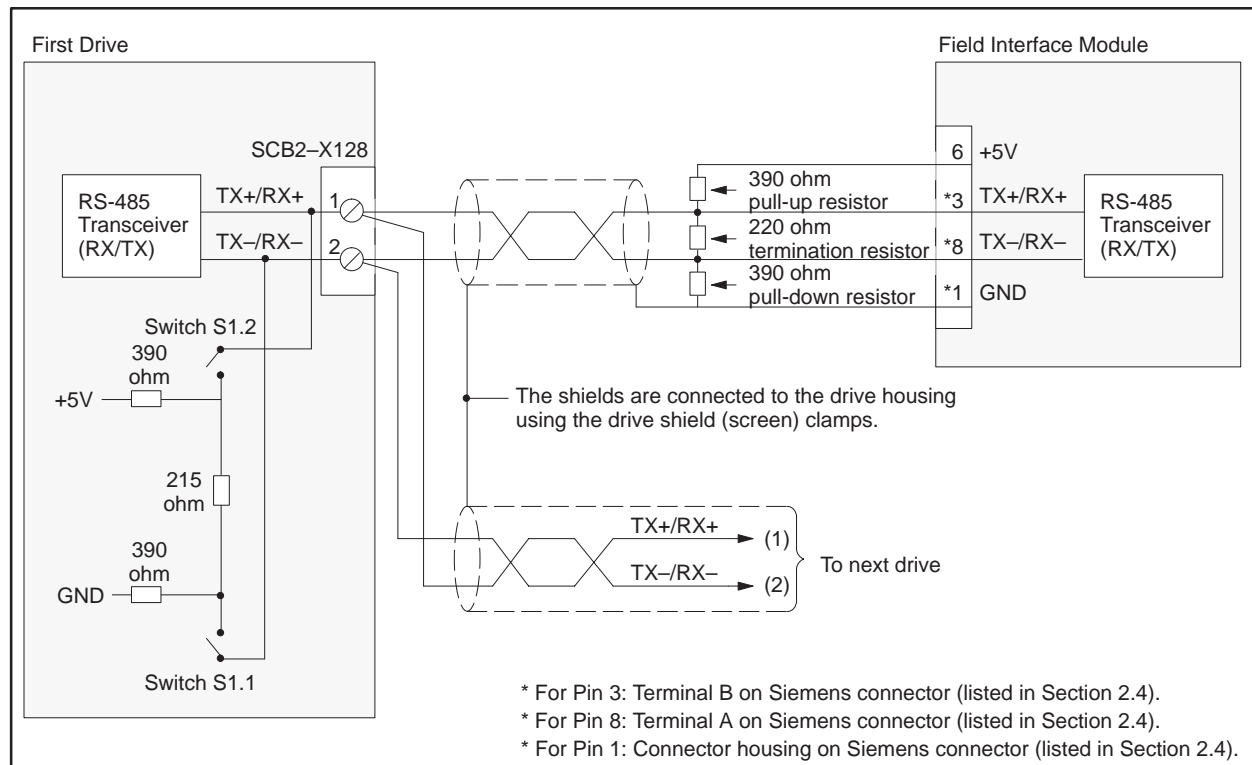
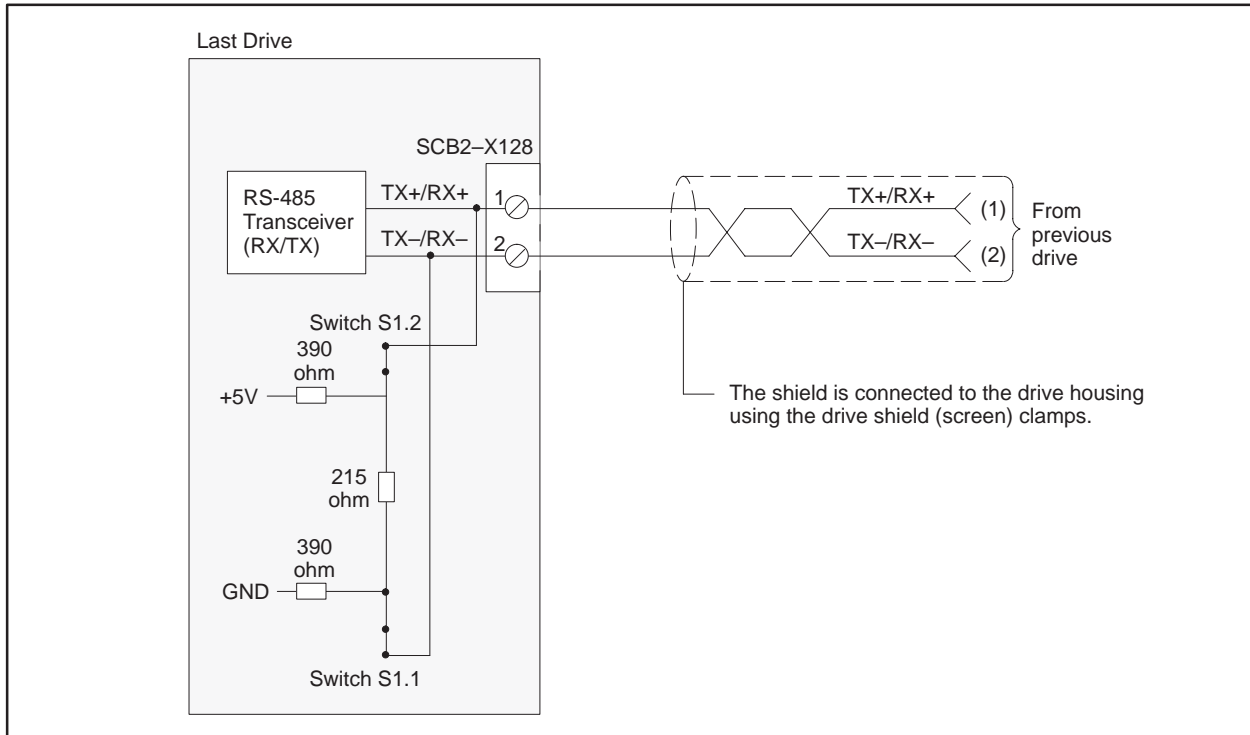

Figure 3-54 SCB2 Wiring: All Drives Except End of Bus
Figure 3-55 SCB2 Wiring: Drive at End of Bus
- S1.1 Figure 3-54 and Figure 3-55 show the correct position of this hook switch.
- S1.2 Figure 3-54 and Figure 3-55 show the correct position of this hook switch.
Figure 3-54 shows the wiring for all drives except the end of the bus for the SCB2 Master Drive Serial Communications Board.
Figure 3-55 shows the wiring for the drive at the end of the bus for the SCB2 Master Drive Serial Communications Board.